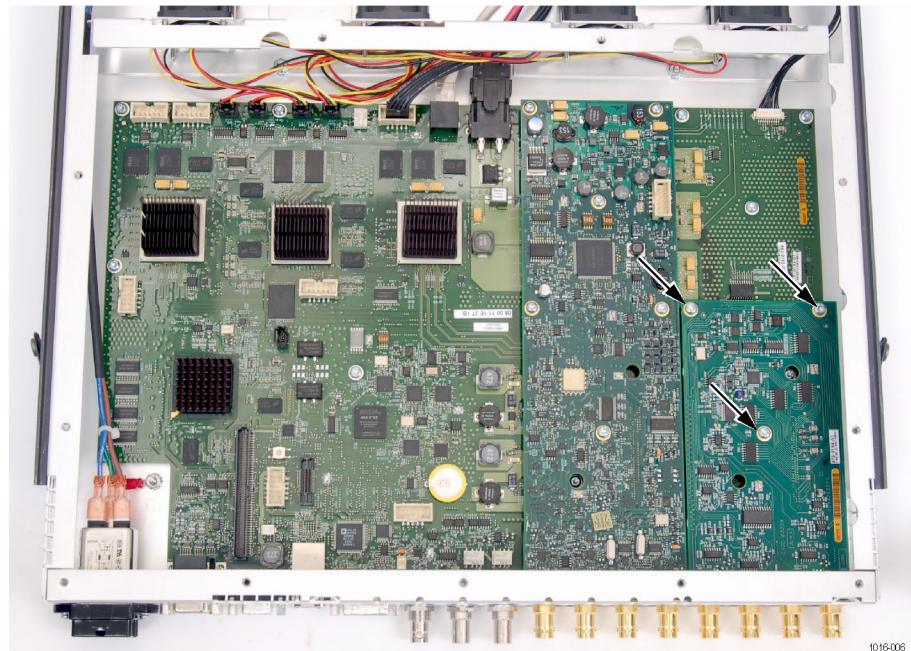

Figure 7: Option CPS board
Remove the retaining screws securing the composite board to the main board. There are three screws to remove. (See Figure 7.)
6. Secure the CPS board to the three mounting posts with the three T-15 screws from the kit. Tighten firmly, but not excessively. (See Figure 7.)